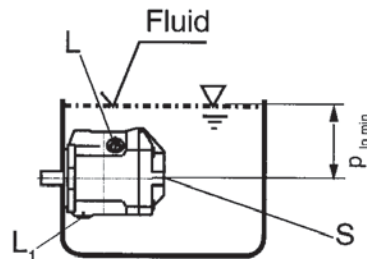

Fig. 3
a) If the minimum fluid level is equal to or above the top of the pump, ports "L", "L₁" and "S" should remain open (see fig. 3).